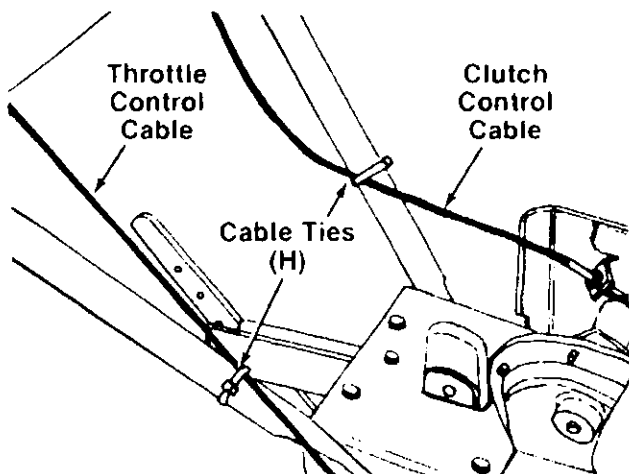

FIGURE 18.
21. Secure the throttle control cable and clutch control cable to the handle and brace with cable ties (H) provided. Cut off excess ends. See figure 18.